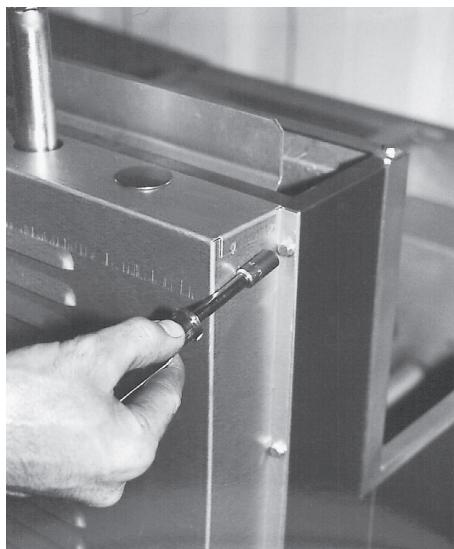

Fig. 62
4. Remove (14) screws from the upper back of the basket assembly using a  $\frac{1}{4}$ " socket. (Fig. 62)